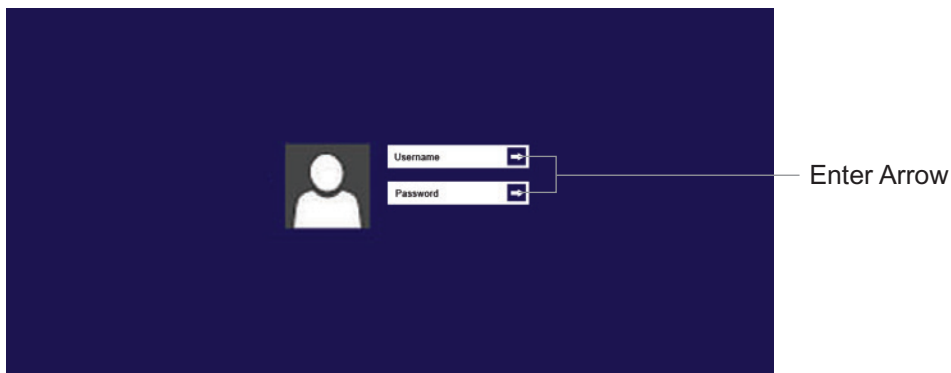

Figure 4-2: Windows Login Screen
4. Touch the middle of the display screen and slide up with finger to reveal the Windows login screen. See Figure 4-2.